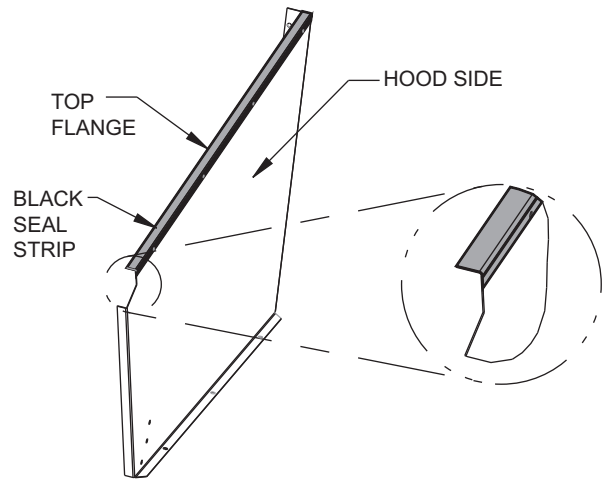

Fig. 23 — Adding Seal Strip to Top of Hood Sides
1. Apply black seal strip (provided) to outside top-edge of hood sides. Wrap seal strip over edge to cover top flange (2 hood sides per hood assembly). Make sure seal strip covers screw holes. See Fig. 23.